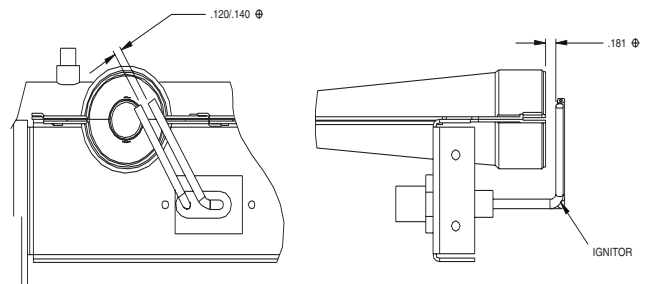

Fig. 5 — Spark Gap Detail
5. Check ignitor gap and adjust if necessary. See Fig. 5 for correct clearances.
13. Check spark gap. See Fig. 5.